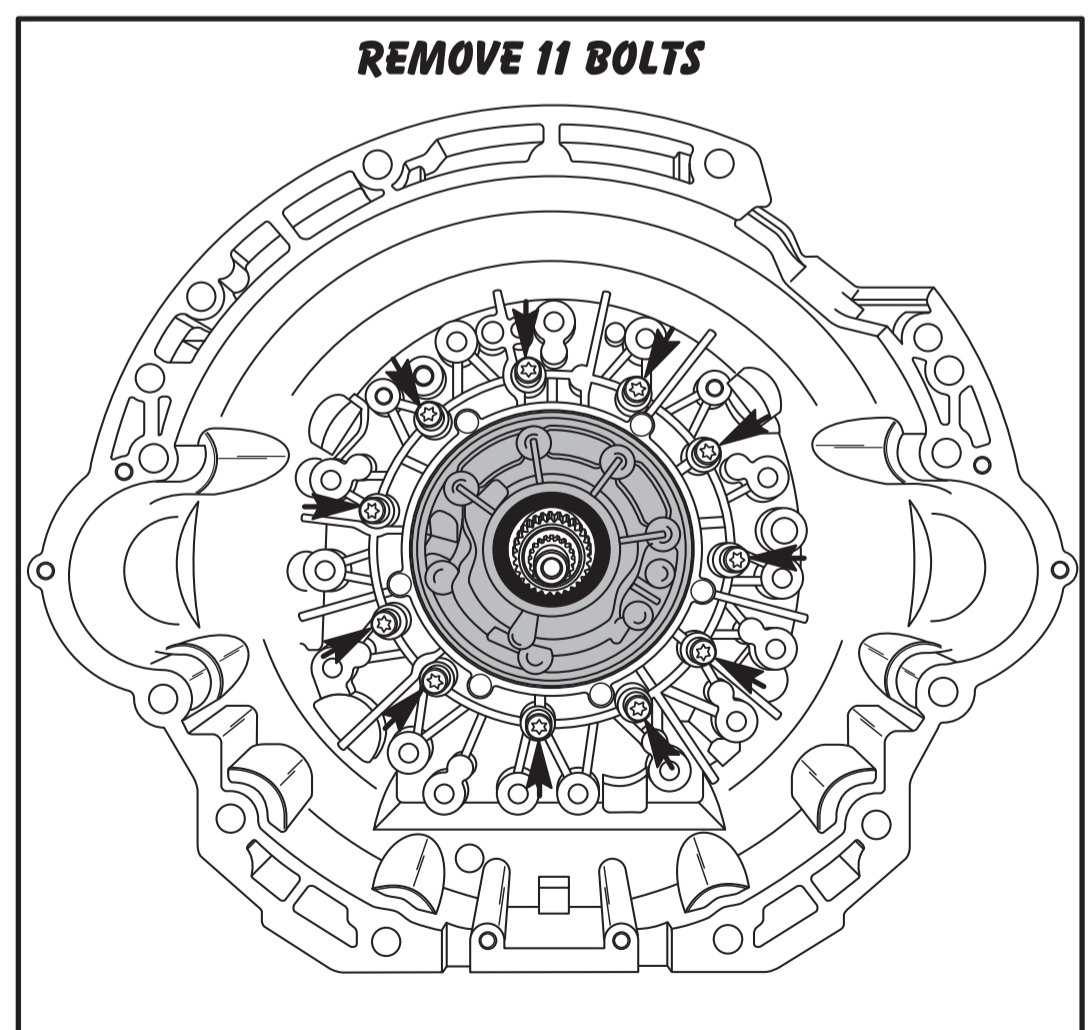

Figure 62
4. Turn the converter housing over and remove the 11 retaining bolts, as shown in Figure 62, using a 30 Torx bit.